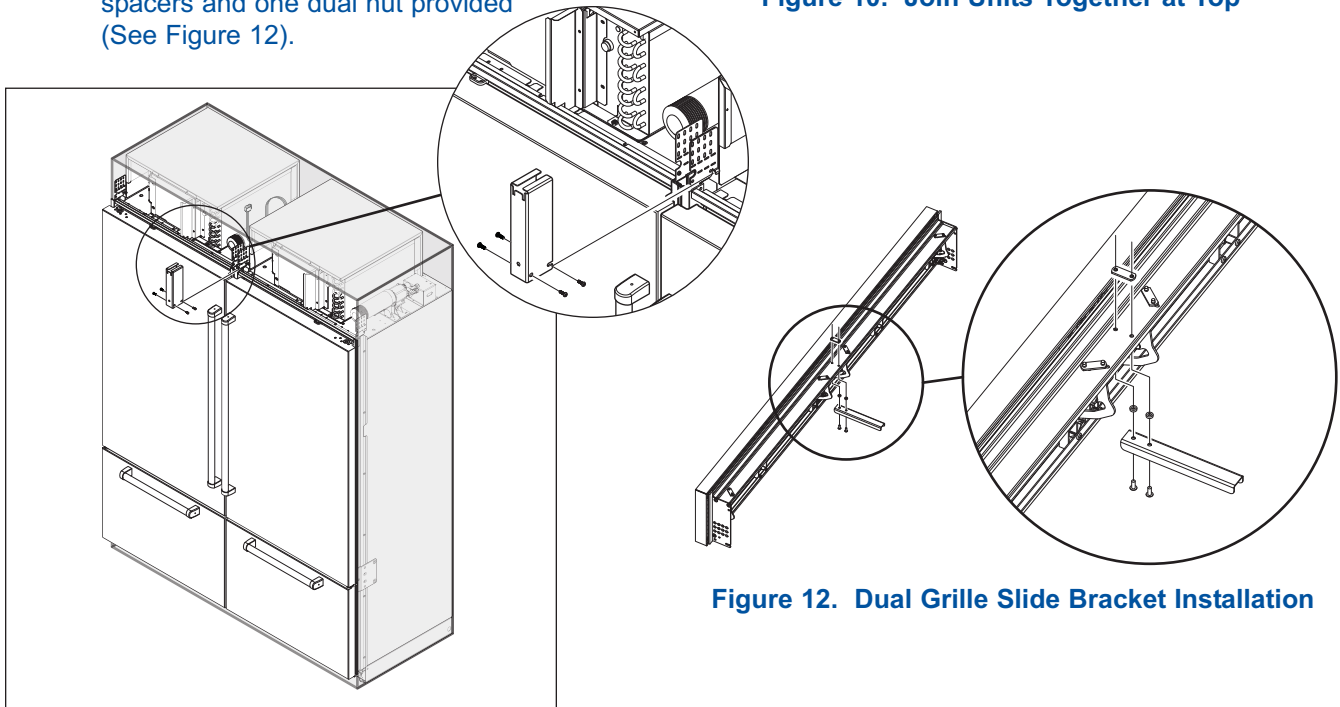

Figure 11. Install Support Bracket
1. Install dual grille support bracket over top of grille installation brackets at adjoining top corners of the units (See Figure 11). Then, insert and tighten mounting screws, 2 each side.